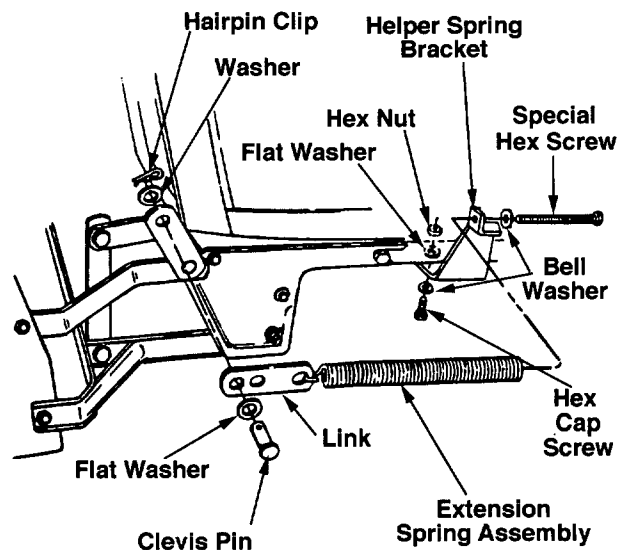

Figure 24
- b. Attach the helper spring bracket (3-1) to the left side of the tractor frame using the two hex cap screws (3-2), bell washers (3-3), flat washers (3-4), and hex nuts (3-5). The flat washers go between the spring bracket and frame. The crown (rounded surface) of the bell washers must be against the head of the cap screws. Refer to Figure 24.
- c. Place one flat washer (3-6) on the clevis pin (3-7). Insert the clevis pin through the link (3-8) and the hole of the helper spring lift arm (3-14). Secure with the second flat washer (3-6) and hairpin clip (3-9). See Figure 24.
- e. Hook the end of the extension spring w/insert (3-10) into the link, and align the spring insert with the hole of the spring bracket (3-1) as shown in Figure 24.
1. Referring to Figure 24, remove the helper spring kit as follows: